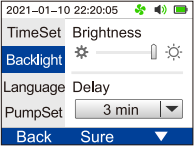

Figure 20
**Backlight setting:** Set the brightness of the instrument's backlight, there are three levels in total, and you can also set the backlight delay time (Figure 20).